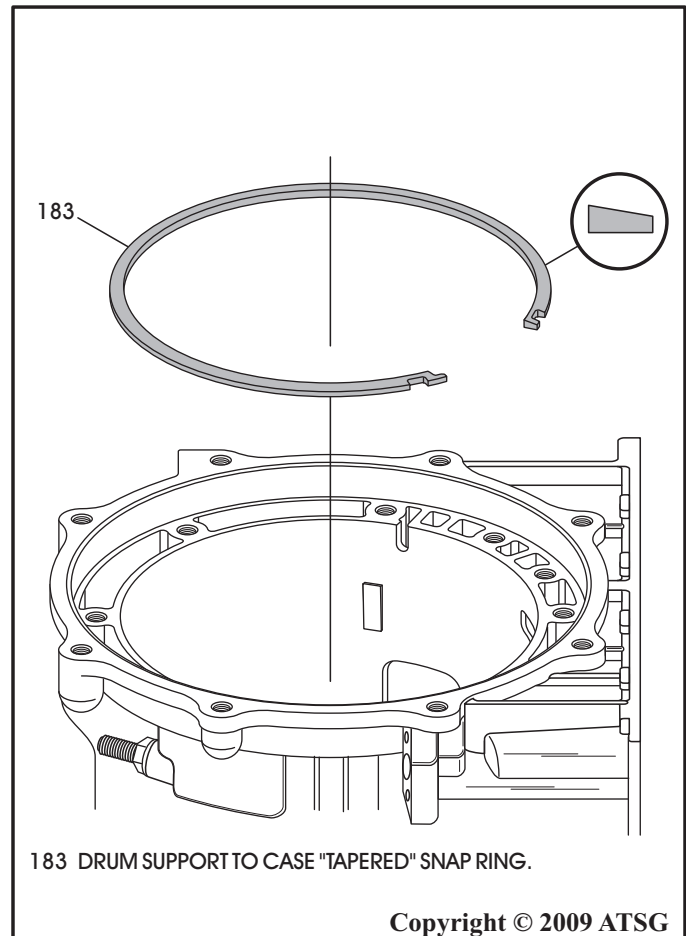

Figure 60
59. Remove drum support to case "tapered" snap ring, as shown in Figure 60.